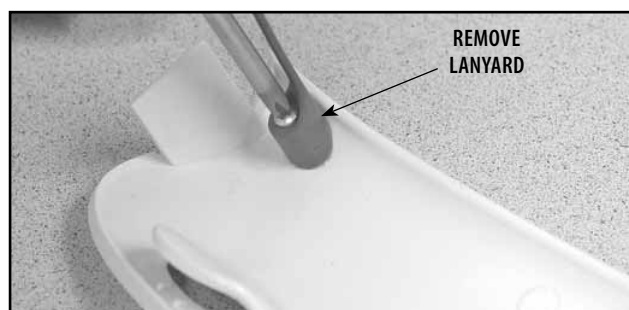

FIGURE 6.3
5. Using a #1 Phillips Screwdriver, remove the screw securing the Lanyard to the Front Access Panel. See Figure 6.3.